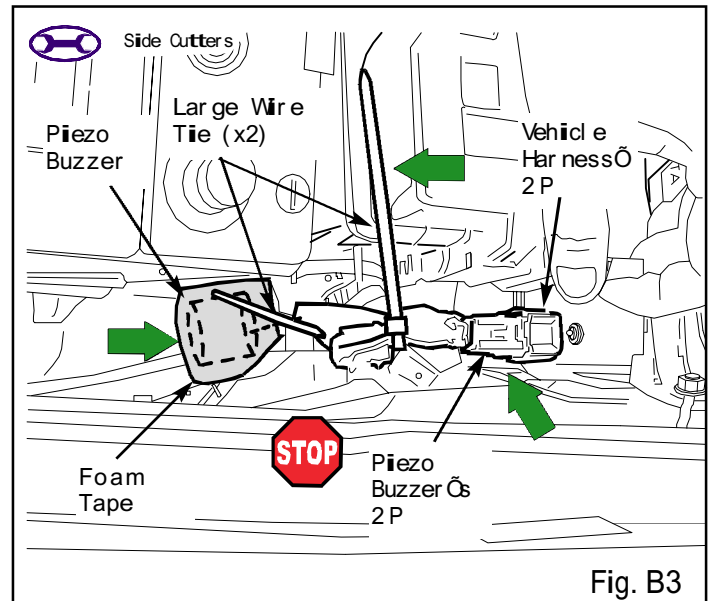

Fig. B3
3. Connect the Piezo Buzzer's gray 2P connector to the vehicle harness's 2P gray connector. (Fig. B3)
➔ 4. Using a large strip of foam tape, wrap the Piezo Buzzer. (Fig. B3)
5. Secure the Buzzer to the vehicle's harness with two large wire ties. (Fig. B3)